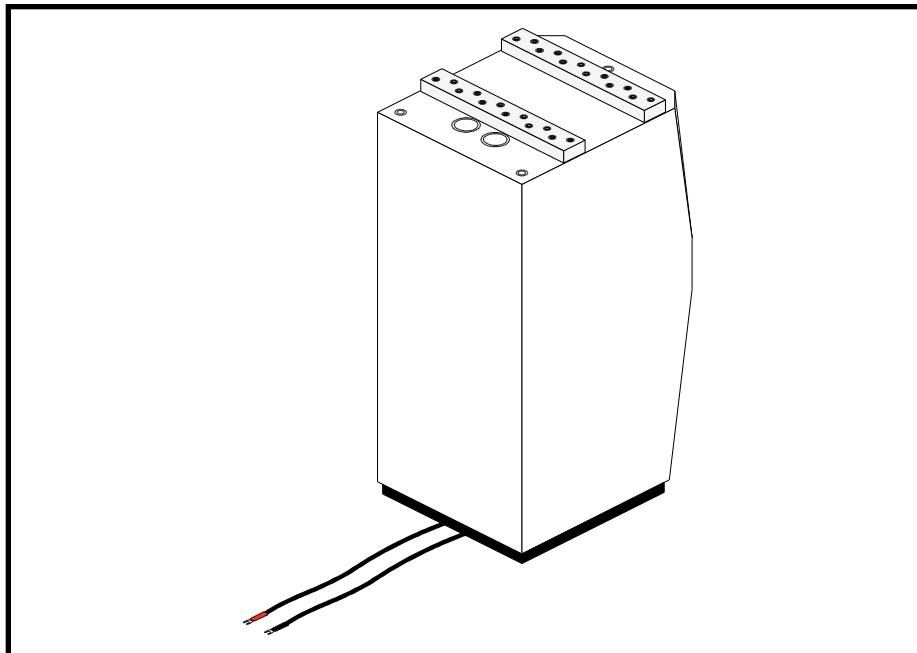

Figure 3.3 – Placement of set-up blocks atop lower speaker cabinet. Do NOT cover the receiving sockets or wiring tubes with the set-up blocks.
4. Place the two supplied set-up blocks on top of the **lower** speaker cabinet, taking care NOT to cover the sockets or wiring guide tubes, as shown in Figure 3.3. The set-up blocks prevent scratching of the lower speaker cabinet during positioning and alignment.